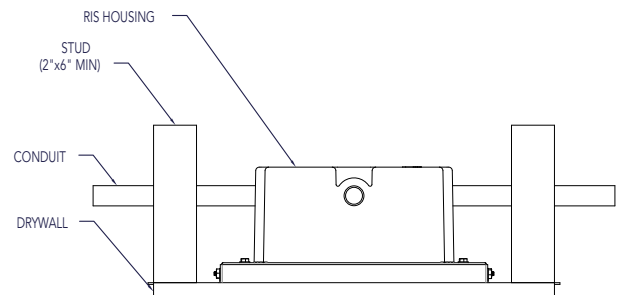

Figure 2
3. Secure the RIS housing mounting brackets using fasteners (by others) to support studs (fig.2).
4. Connect conduit to RIS housing (fig.2).